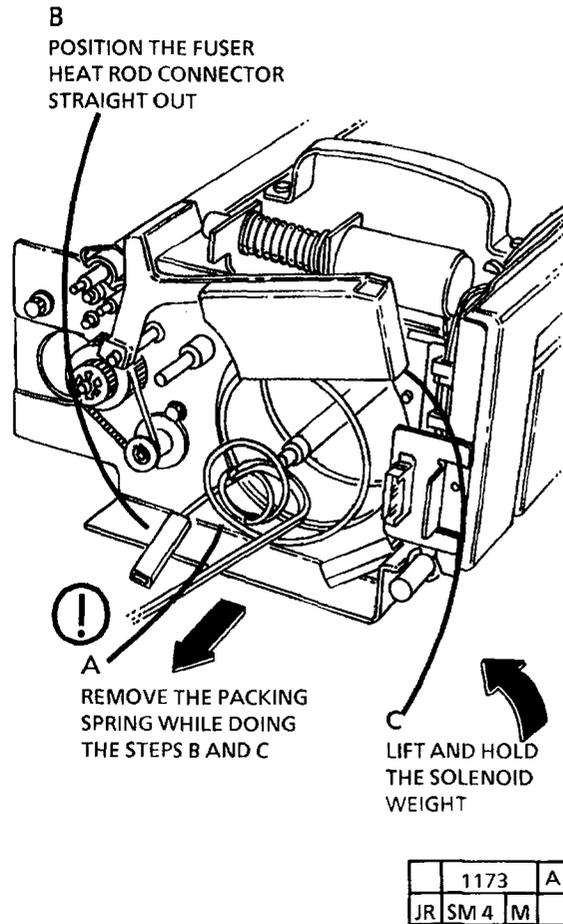

Figure 11. Remove the Packing Spring
15. (FIGURE 11): REMOVE THE PACKING SPRING.